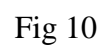

Fig 10
3. Use the designed CMFB amplifier in test-bench as shown in Fig 10 and find the CMFB loop gain, UGF, and phase margin. Tune the CMFB amplifier until the PM is larger than 50 degree. (The UGF of the CMFB loop is typically around 5~10 times lower than the differential mode UGF.)